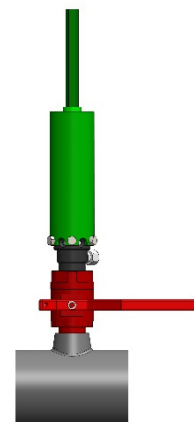

FIGURE 15
- d. Thread Jack tube over extraction cap. Thread the jack tube down until the 6 hex head bolts can be reinstalled. Install the 6 hex head bolts and the hex bar. Remove the Pressure Relief Valve and tighten vented cap onto grease fitting. See fig 15.